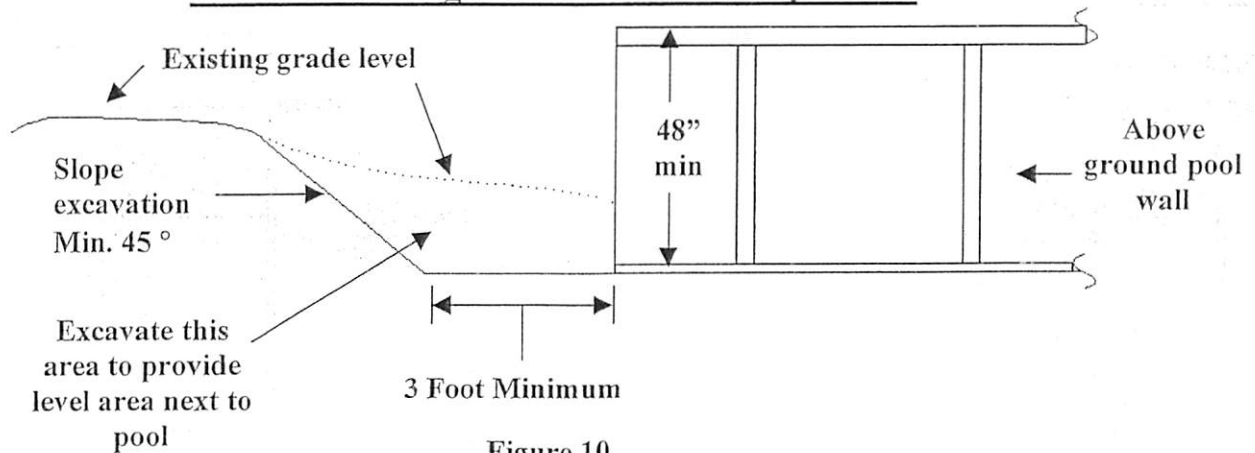

Figure 10
8. Where an above-ground pool on a sloped site that will make a portion of the top of the pool structure to be less than 48" to grade, a minimum of 3-foot level surface around the portion of the pool structure that is less than 48" to grade should be provided. The level surface should be measured away from the pool wall to the excavation edge and should be tapered away from the pool at a minimum of 45-degree angle for a distance of one half the level surface. (Figure 10)